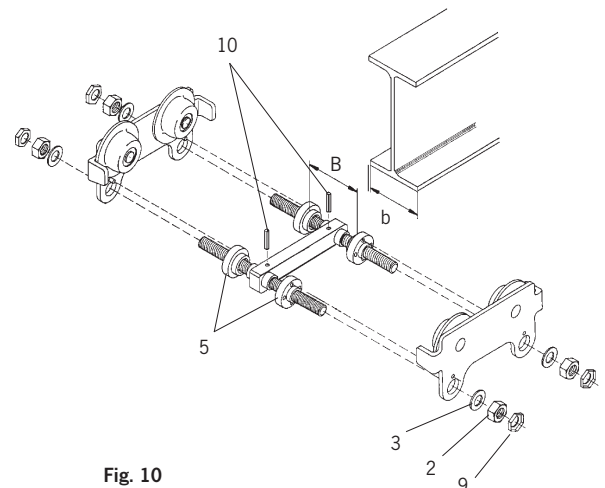

Fig. 10
## Assembly of the trolley 1,6 - 5 t (see Fig. 10)
1. Unscrew the locking nuts (item 9) and hex nuts (item 2) from the crossbars (item 1) and remove both side plates (item 6) from the trolley.
2. Measure the flange width of the beam (see Fig. 10 - measure b).